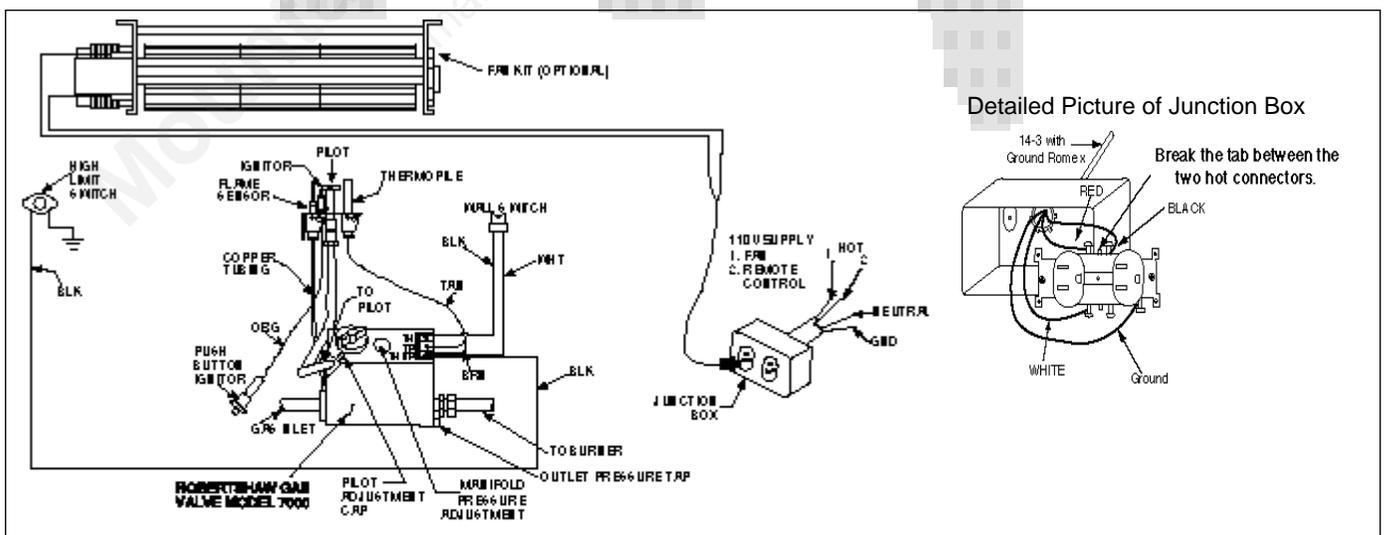

Figure 13
- 1. Appliance requirements.** A wiring diagram is shown in *Figure 13*.